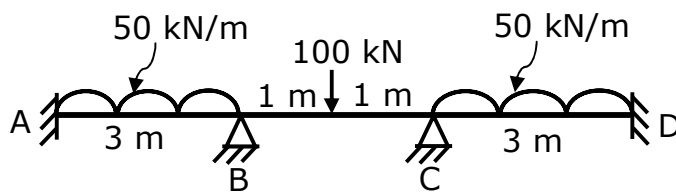

Fig. 4
- Q-3.** (a) Determine the support moments using slope deflection method for the continuous girder shown in fig. 4, if the support B sinks by 2.5 mm. For all members Take $E = 200 \text{ kN/mm}^2$ and $I = 3.5 \times 10^7 \text{ mm}^4$. **07**
- Q-3.** (a) Determine the support moments using moment distribution method for the continuous girder shown in fig. 4, if the support B sinks by 2.5 mm. For all members Take $E = 200 \text{ kN/mm}^2$ and $I = 3.5 \times 10^7 \text{ mm}^4$. **07**